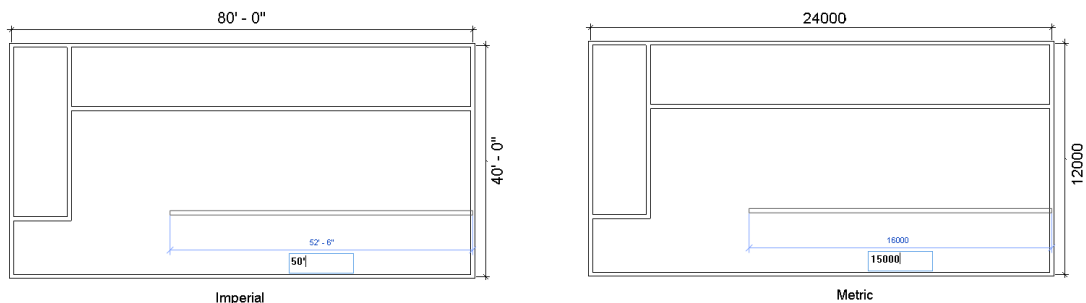
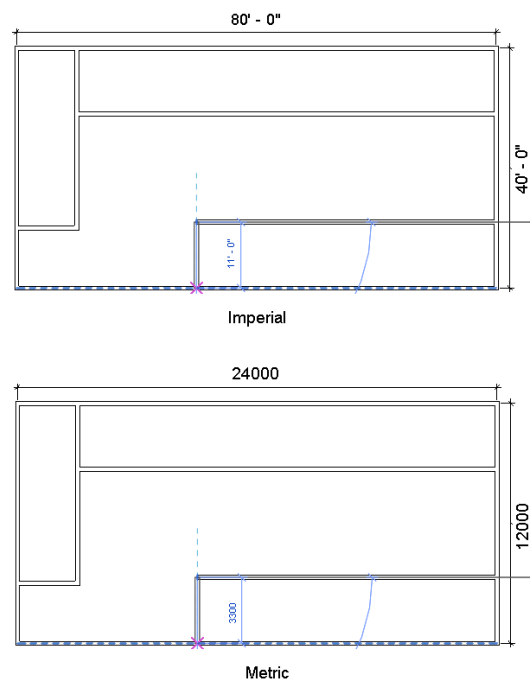

Figure 3-70 Specifying the distance for starting the interior wall segment
Figure 3-71 Sketched wall segment
- Modify levels by renaming, refer to Figure 3-70
- Add grids using the **Grid** tool, refer to Figures 3-71 through 3-73.
- Next, move the cursor in the horizontal direction towards the left. Enter **50'0"** and then press ENTER, as shown in Figure 3-70. Ensure that the **Chain** option is selected. Now, move the cursor vertically downward near the lower exterior wall segment; the interior wall segment is sketched, as shown in Figure 3-71.